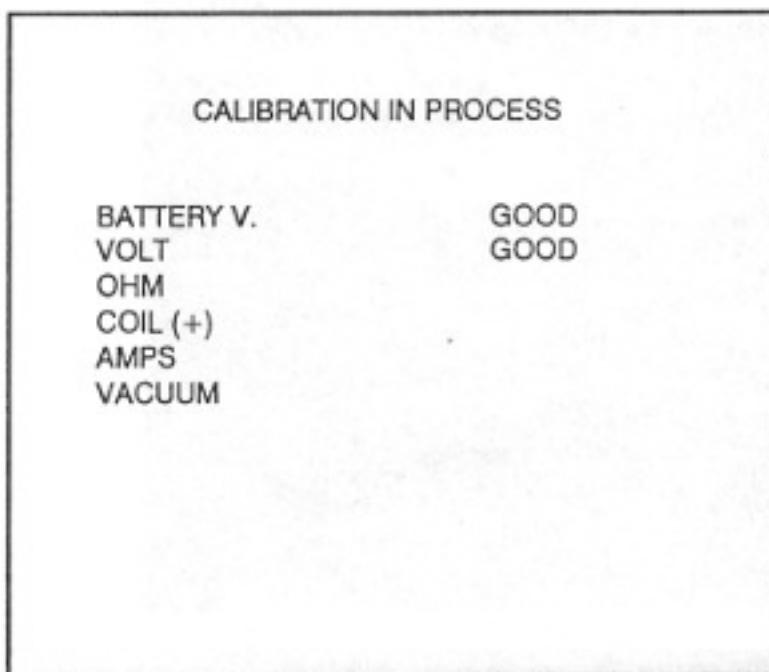

FIGURE 10. If an emissions module is not installed, this page appears when selection four is made on the PROGRAM MENU page.
- If an emissions module is not installed, the CALIBRATION page(Figure 10)identical to the one that appears after the tester self-test/warm-up page, will be displayed. Refer to "Test Preparation" for instructions on how to automatically self-calibrate the analyzer.